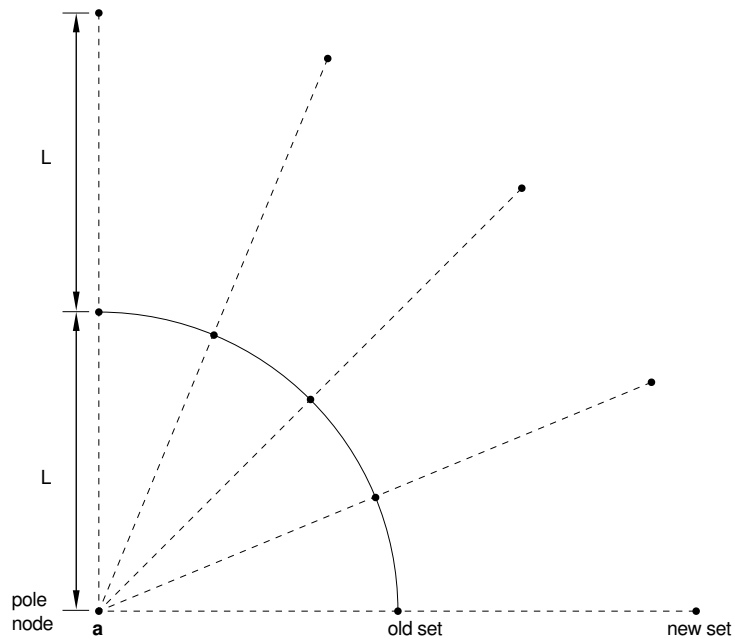

Figure 5: *NCOPY, POLE option.
2. X -coordinate of the pole node (point a in Figure 5 only required if the pole node number was not entered).